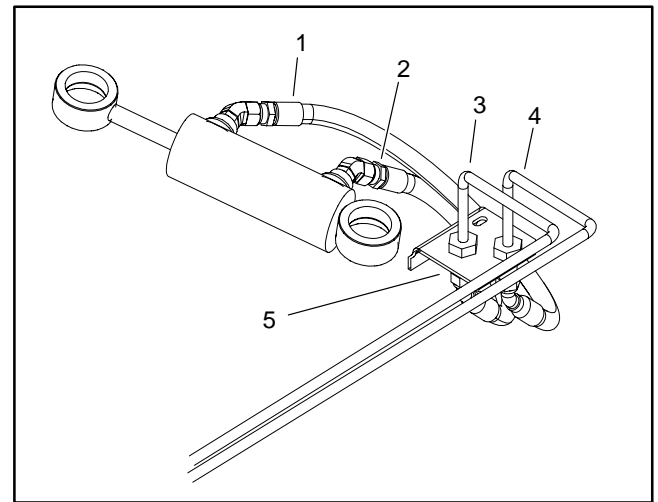

Figure 9
7. Disconnect both steering cylinder hydraulic hoses from hydraulic tubes at rear frame mount (Fig. 9). Remove bulkhead locknuts and washers that secure steering cylinder hydraulic tubes to rear frame mount. Separate tubes from frame mount.
8. Attach steering cylinder hydraulic tubes to rear frame mount with washers and bulkhead locknuts (Fig. 9). Install steering cylinder hoses to hydraulic tubes.